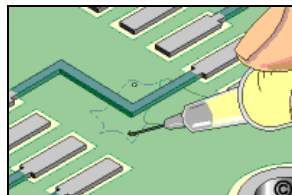

Figure 2: Inject Epoxy into the delamination blister using a Syringe Assembly.
6. Inject the Epoxy into one of the holes in the delaminated area. (See Figure 2). The heat retained in the circuit board will improve the flow characteristics of the Epoxy and should draw the Epoxy into the void area filling it completely.